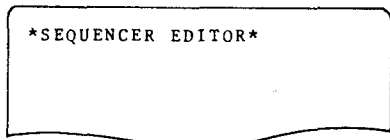
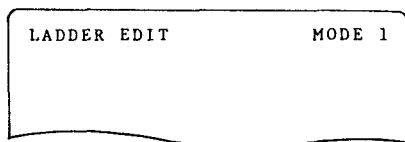

Fig. 9.5
Fig. 9.6
- (1) When the sequence program is stored in P-ROM, snap the ROM/RAM select switch to ROM on the JDU01. Set the switch to C-MOS for the program stored in C-MOS.
- (2) Depress the POWER ON pushbutton to apply power (set the System No. switch to **0** or **4** beforehand). The NC mode will be entered.
- (3) When a test run is performed here for sequence program check, stop all NC functions by Feed Hold or other operations and press the **RESET** key afterward.
- (4) Set the System No. switch to **4**.
- (5) Depress the **DGN** function key, and depress the **NEXT** key. A comment "(STORED)" will appear following another comment "DIAGNOSIS" on the CRT.
- (6) Depress the **X**, **S** and **D** keys, in that order. Then depress the **ORG** key. A comment "SEQUENCER EDITOR" will appear on the CRT (Fig. 9.5). About 2 seconds later, MODE 1 of the SD mode is entered (Fig. 9.6).
- (7) Then operate the PAGE keys to select one of six MODEs in the SD mode.